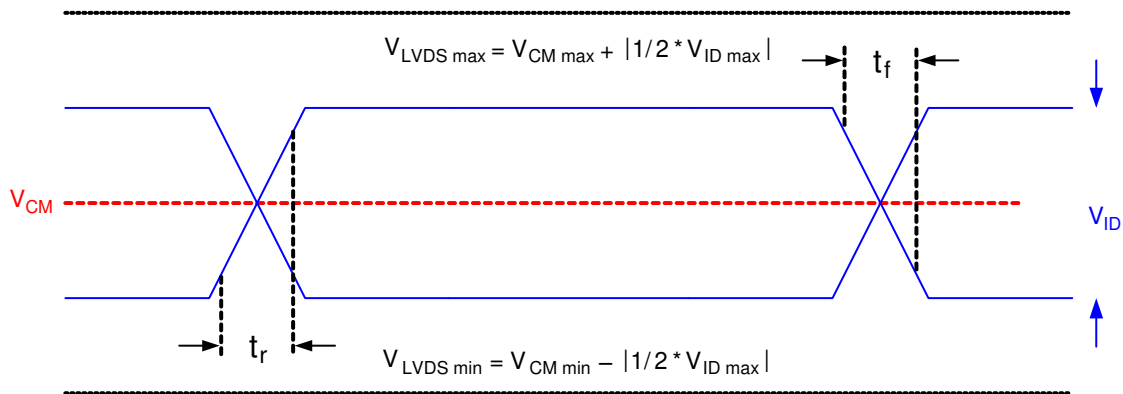

Figure 6-5. LVDS Waveform Requirements
- (8) See Figure 6-5 LVDS Waveform Requirements.
- (9) Simultaneous exposure of the DMD to the maximum Section 6.4 for temperature and UV illumination reduces device lifetime.